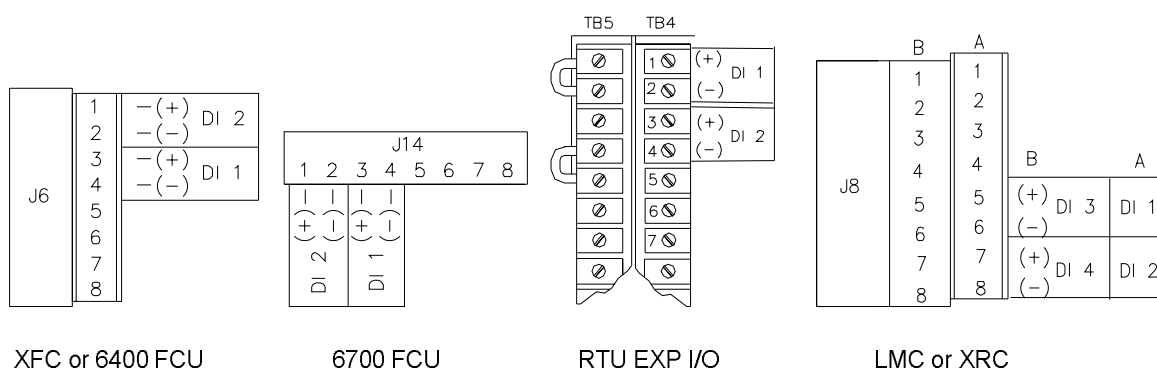

Figure 55: Host hardware digital inputs
1. Locate the pulse or digital input + and – on the main electronics board as shown in Figure 55.